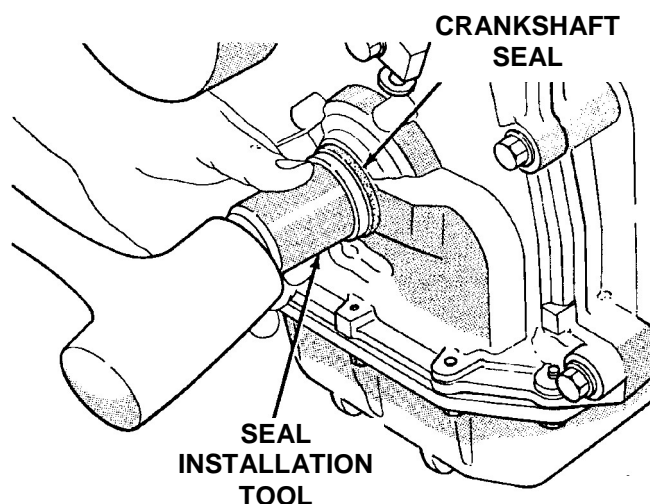

Figure 10
50. Using crank seal installation tool MD998306, install the front crankshaft seal to the proper depth (Figure 10).